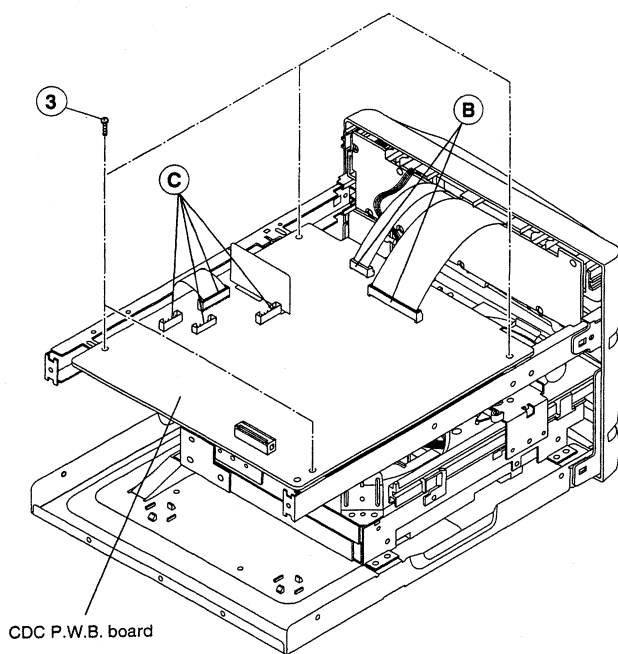

Fig. 16
- (1) Remove 4 screws ②: 2 from the left and right brackets and 2 from the bottom chassis.
- (2) Release 1 connector ③.
3. Removal of CDC P.W.B. Board (Fig. 16)